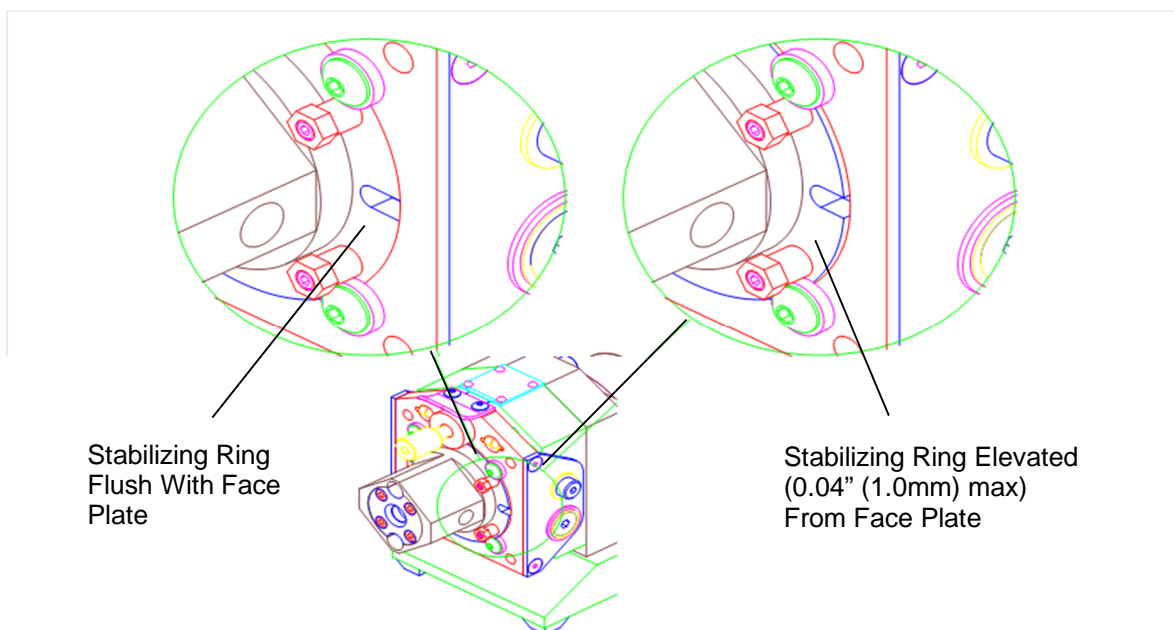

Figure 5.4 Stabilization Adjustment
The following steps describe the procedure for adjusting the pump module for neutral discharge. In general, a neutral position is established when the pump module stabilizing ring is flush with the face plate. In this position, the set screws (3) are not in contact with the face plate. (See Figure 5.4)
2. Loosen, do not remove, two stabilizing lock nuts (4) and back out (counterclockwise) the #4-40 x .38" long socket set screws (3) so they don't contact the Motor Module (5).
3. Loosen, do not remove, four #6-32 x .31" Long Button Head Socket Cap Screws (1) then retighten evenly to 10 in-lbs (1.13N-M).
The following steps describe the procedure for adjusting the Pump Module for accelerated discharge. In general, an accelerated discharge position is established when the pump module stabilizing ring is angled from the face plate. In this position, the setscrews (3) contact the face plate to create the angled position. These set screws can be adjusted to create a positive offset (0.04" (1.0mm) max.) between the pump module stabilizing ring and the face plate. (See Figure 5.4) The amount of fluidic acceleration is adjusted by changing this offset and can only be optimized through trial and error.
- Loosen (1/4 turn) the two #6-32 x .31" long button head socket cap screws (1) on the discharge side of the Pump Module.
- Loosen two stabilizing lock nuts (4) and turn #4-40 x .38" long socket set screws (3) until the set screw just touches the surface of the face plate.
- Turn #4-40 x .38" long socket set screws (3) clockwise one additional turn.
- Tighten two stabilizing lock nuts (4) in to lock the #4-40 x .38" long socket set screws (3) in place. Do not exceed 5 in-lbs (0.565 N-M) of torque when tightening stabilizing lock nuts (4).
- Tighten two #6-32 x .31" long button head socket cap screws (1) to 10 in-lbs (1.13 N-M) to lock the Pump Module stabilizing ring in position and fix the accelerated discharge adjustment.